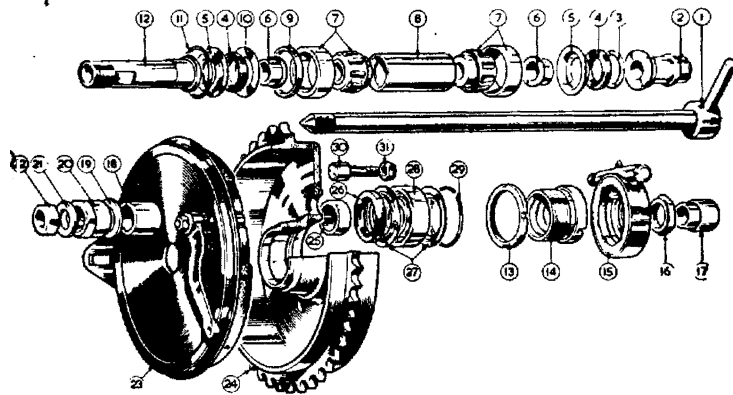

FIG 28 Rear brake and wheel bearings, de-luxe models
**Dismantling rear wheel bearing (Fig. 28).** Before removing the rear wheel, release the speedo drive fixing nut (16), disconnect speedo cable and take out the wheel.
**To remove the bearing ring.** Press inwards the steel cup washers (5) to permit extraction of the circlip (11), take out the cup washer, oil seal and spacer (6). Drift out the bearing ring with a length of steel tubing.
**Brake drum bearing Fig. 28.** With the brake drum away from the frame, to dismantle:
- Remove dummy spindle (12).
- Remove circlip (11) and cup for oil seal (5).
- Remove oil seal (4) and distance piece (6).